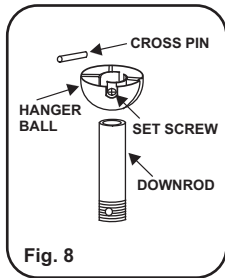

Fig. 8
**Step 5.** Remove the Hanger Ball from the Downrod Assembly by loosening the Set Screw and removing the Cross Pin. (Fig. 8)